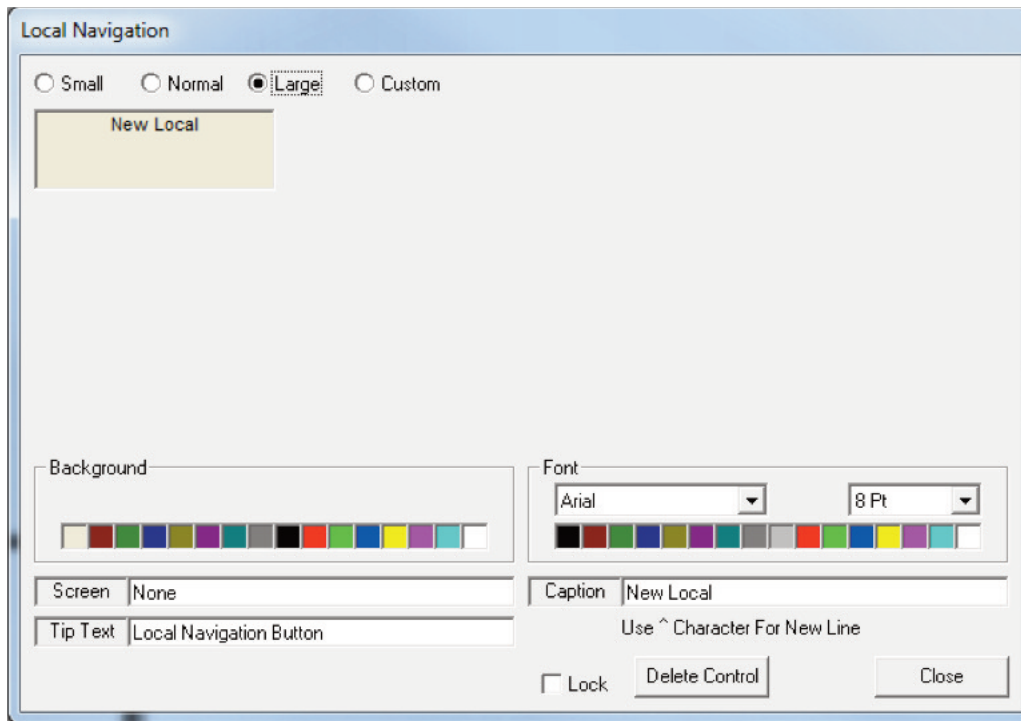

Figure 2.2 Defining a Navigation Button
4. Right click on the navigation button to begin defining it as shown in figure 2.2